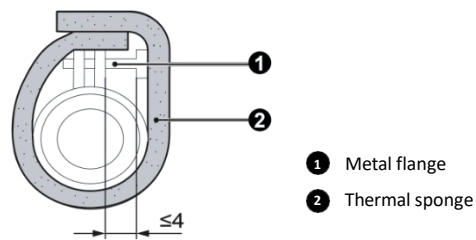

Fig. 4.3.3
- 3 Use the sealing plate to insulate the clamp and the hose, as shown in Fig. 4.3.3.